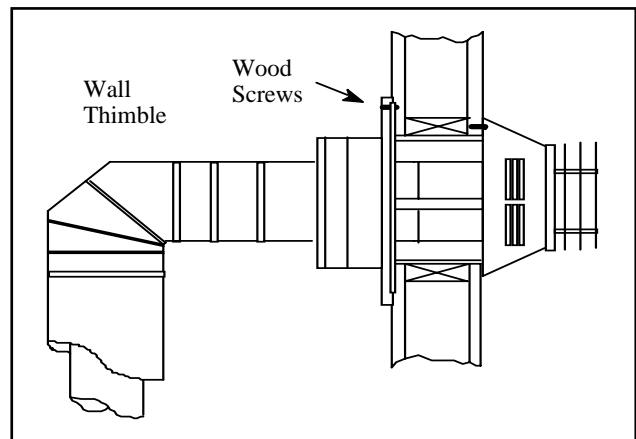
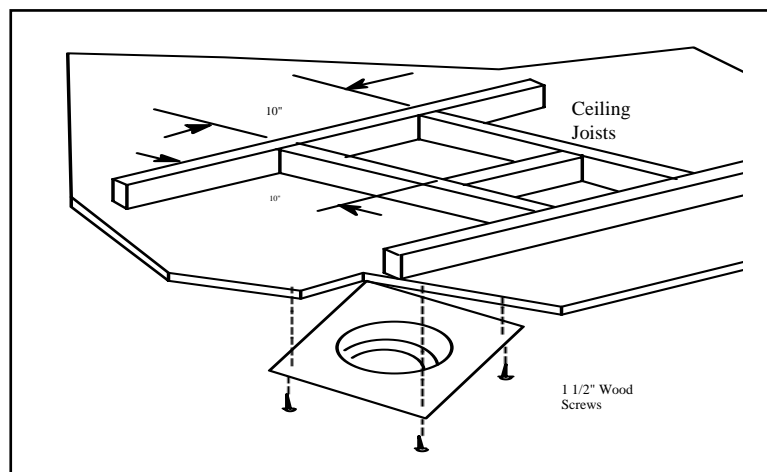

FIGURE 15: DECORATIVE TRIM
FIGURE 16: ROUND SUPPORT BOX/WALL THIMBLE
STEP 7 Slide the decorative wall thimble up FIGURE 16 to the wall surface and attach with screws provided. Apply decorative plated trim if desired as shown in FIGURE 15.
STEP 3 To install the round support box/wall thimble in a flat ceiling, cut a 10" square hole in the ceiling, centered on the hole drilled in STEP 2. The hole should be of sufficient size to meet the minimum requirements of 1" to combustibles. Frame the hole as shown in FIGURE 16.